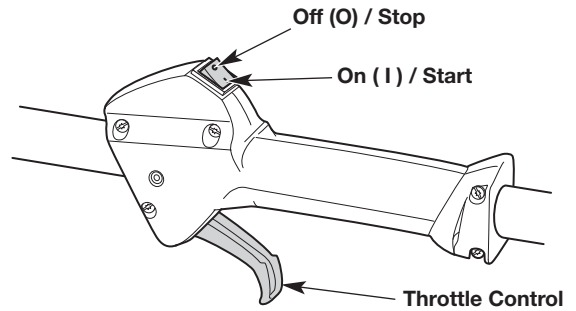
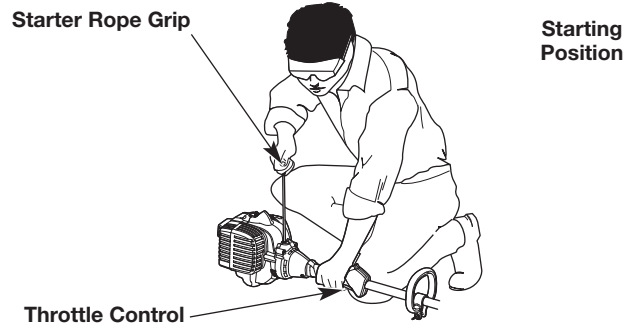

Fig. 6
Fig. 8
WARNING: Avoid accidentally starting the unit. To avoid serious injury, the operator and the unit must be in a stable position when pulling the starter rope (Fig. 8).
NOTE: There is no need to turn the unit on. The On/Off switch is in the ON (I) position at all times (Fig. 6).
5. Crouch in the starting position (Fig. 8).
6. Squeeze the throttle control (Fig. 6) and pull the starter rope with a controlled and steady motion **5 times** (Fig. 8).
2. Press and hold the On/Off switch in the OFF (O) position until the engine comes to a complete stop (Fig. 6).
7. Squeeze and hold the throttle control (Fig. 6). Run the electric start accessory for 2 seconds.